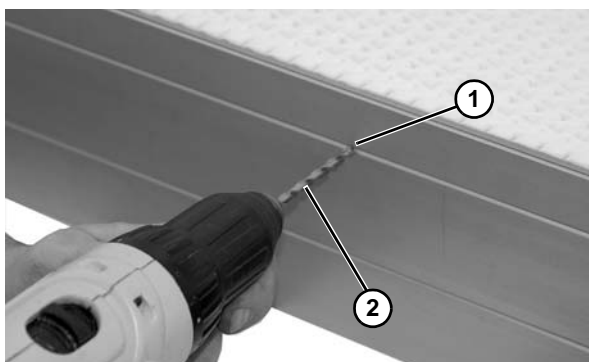

Figure 26
2. Drill the hole locations (**Figure 26, item 1**) with a 3/16" drill bit (**Figure 26, item 2**).